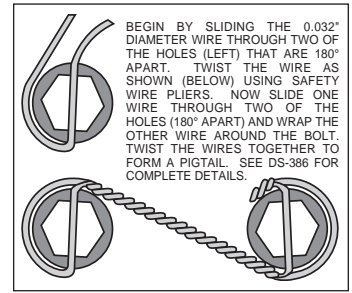
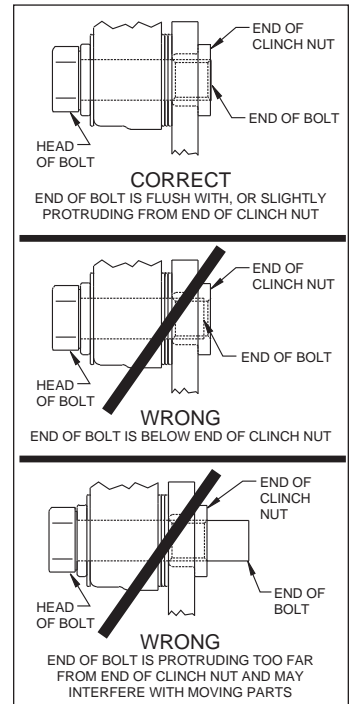

Figure 3. Safety Wire Diagram
Figure 4. Clinch Nut Engagement Diagram
**Assembly Instructions** (numbers in parenthesis refer to the parts list on the preceding page and Figure 1): **CAUTION:** All mounting bolts must fully engage clinch nuts. Be sure to check that all bolts are either flush or protruding through flanged side of clinch nut after shimming, Figure 4.
•Install the grease seal (11) by pressing into the backside of the hub (9), flush with the end of the hub, Photo 2.
•Orient the rotor (13) and the rotor adapter (12) as shown in Figure 1 and Photo 3, with the flat side of the rotor mounted to the rotor adapter. Attach the rotor to the adapter using bolts (14). Using an alternating sequence, apply red *Loctite*® 271 to the threads, and torque to 25 ft-lb. For an added measure of security, the bolts may be safety wired using standard 0.032 inch diameter stainless steel safety wire as shown in Figure 3. Please refer to Wilwood's data sheet DS-386 (available at [www.wilwood.com/Pdf/DataSheets/ds386.pdf](http://www.wilwood.com/Pdf/DataSheets/ds386.pdf)) for complete safety wire installation instructions.
- Screw dust cap (18) into hub (9), Photo 6. Friction created by the o-ring (17) on the dust cap keeps it from unscrewing. **NOTE:** The O.D. of the existing OEM spindle washer may be larger than the I.D. of the dust cap not allowing it to seat against the hub face. Therefore, use the spindle washer (24) supplied with the kit instead of the OEM washer.
- NOTE:** Please reference the caution statement at the beginning of the assembly instructions. Mount the caliper (19) onto the caliper mounting bracket (1) using bolts (21) and washers (20), as shown in Figure 1. Initially place one .035" thick shim (22) on each bolt between the caliper and the bracket, Photo 7. Temporarily tighten the mounting bolts and view the rotor (13) through the top opening of the caliper. The rotor should be centered in the caliper, Photo 8. If not, adjust by adding or subtracting shims between the bracket and the caliper. Always use the same amount of shims on each of the two mounting bolts. **NOTE:** The end of each bolt must be flush with or slightly protruding from the head of the clinch nut, as shown in Figure 4. If necessary place spare shims between washer (20) and caliper mounting ear to achieve the proper clinch nut engagement. Once the caliper alignment and clinch nut engagement are correct, remove the bolts one at a time, apply red *Loctite*® 271 to bolt threads, and torque to 40 ft-lb. For an added measure of security, the bolts may be safety wired using standard 0.032 inch diameter stainless steel safety wire as shown in Figure 3. Please refer to Wilwood's data sheet DS-386 (available at [www.wilwood.com/Pdf/DataSheets/ds386.pdf](http://www.wilwood.com/Pdf/DataSheets/ds386.pdf)) for complete safety wire installation instructions.